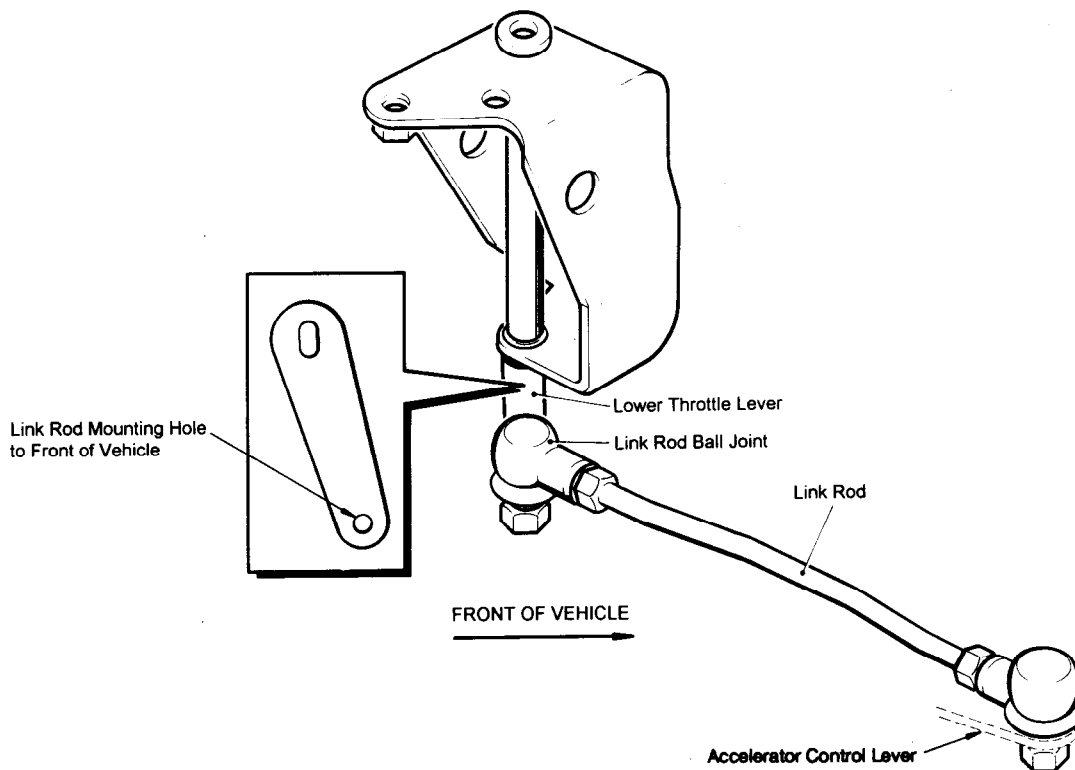

Figure 1 - Throttle Linkages
- b. Replace the lower throttle lever, see Figure 1, with the new lever (item 1 from Table 2), ensuring that the link rod mounting hole is toward the front of the engine.
It may be necessary on some vehicles to remove and trim the link rod (see Figure 1) by 5 mm to allow full adjustment of the linkages.